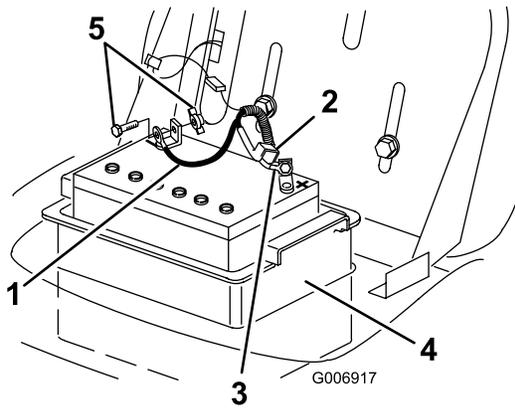

Figure 35
4. Disconnect the negative (black) ground cable from the battery post (Figure 35).
- Slide the rubber cover up the positive (red) cable. Disconnect the positive (red) cable from the battery post (Figure 35).
- Remove the battery box and battery from the chassis (Figure 35).
- Put the battery into the battery box and install it into the chassis (Figure 35).
- Using the bolt and wing nut, connect the positive (red) cable to the positive (+) battery post (Figure 35).
- Using the bolt and the wing nut, connect the negative (black) cable to the negative (-) battery post (Figure 35).